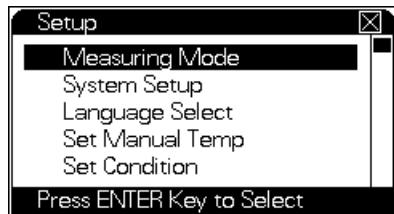

Figure 11 The setup screen
- 1 From the initial state, press [**Setup**]. The setup screen appears. See Figure 11.
- 1 From the initial state, press [**Setup**]. The setup screen appears. See Figure 11 on page 28.